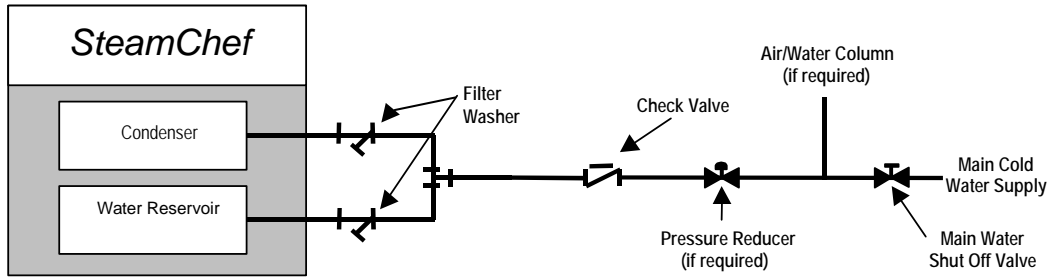
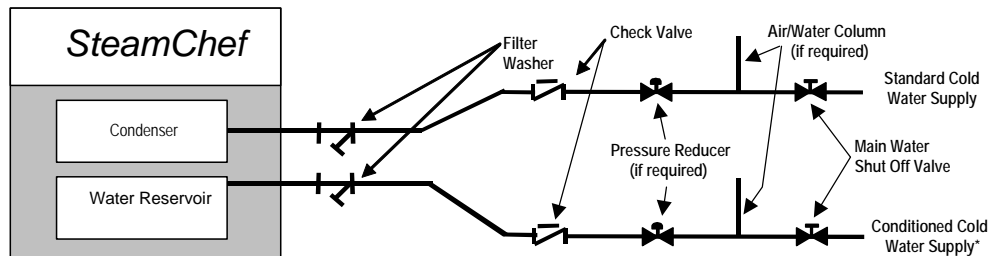

Figure 3-5 Cleveland Range Single Water Supply Arrangement
Figure 3-6 Cleveland Range Separate Water Supply Arrangement
- d. If the water supply meets requirements shown in the Warranty then the Single Water Supply Arrangement shown in Figure 3-5 may be used.
- e. If the water supply fails to meet the requirements shown in the Warranty then use the Separate Water Supply Arrangement shown in Figure 3-6.
- 5) Cleveland Range recommends the plumbing layout in either Figure 3-5 for installations using a single water supply or Figure 3-6 if a separate conditioned water supply is used for the steam generator reservoir feed.
- Use two (2) 3/8" supply lines for a separate conditioned water supply. See Figure
- Use one (1) 1/2" supply line for a single water supply. Use the Single Point Water Connection Kit (cold water supply splitter) (P/N 111009).
11. Refer to Figure 3-5: Connect the drain as described: